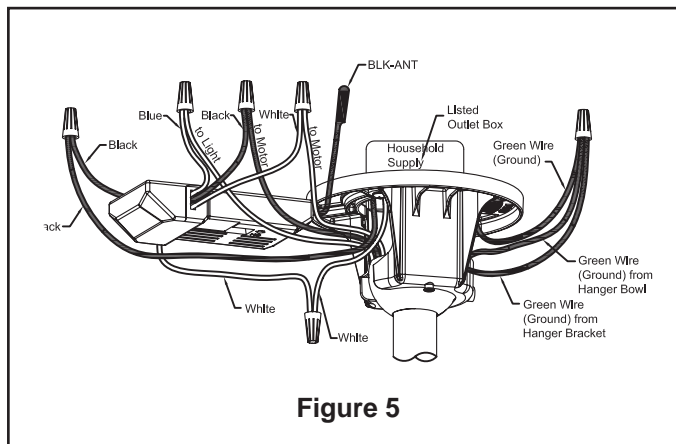

Figure 5
5. Remove one of the three screws in the support bracket at the bottom of the motor assembly. Slightly loosen the remaining two screws. Assemble the light plate assembly to the support bracket using the two keyslots in the socket plate. Replace the third screw and securely tighten all three screws (Figure 5).
4. Connect green wires from hanger bracket and hanger ball to bare (ground) wire using wire connector supplied. Connect black wire from receiver unit marked “AC IN L” to black supply wire using wire connector supplied. Connect white wire from receiver unit marked “AC IN N” to white supply wire using wire connector supplied. Connect white wire from receiver unit marked “TO MOTOR N” to white wire from fan using wire connector supplied with receiver. Connect black wire from receiver unit marked “TO MOTOR L” to black wire from fan using wire connector supplied. Lastly, connect blue wire from receiver to the blue fan light wire using wire connector supplied. Position all connected wires and receiver antenna to allow installation of ceiling canopy (Figure 5).
5. Insert light bulb into socket (Figure 5).